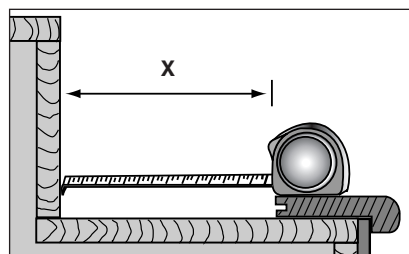

Figure 3
5. Dry fit the stair nose to the edge of the first tread with the molding nose overlapping the laminate piece on the riser below. Measure the distance from the edge of the stair nose to the next riser (Figure 3).